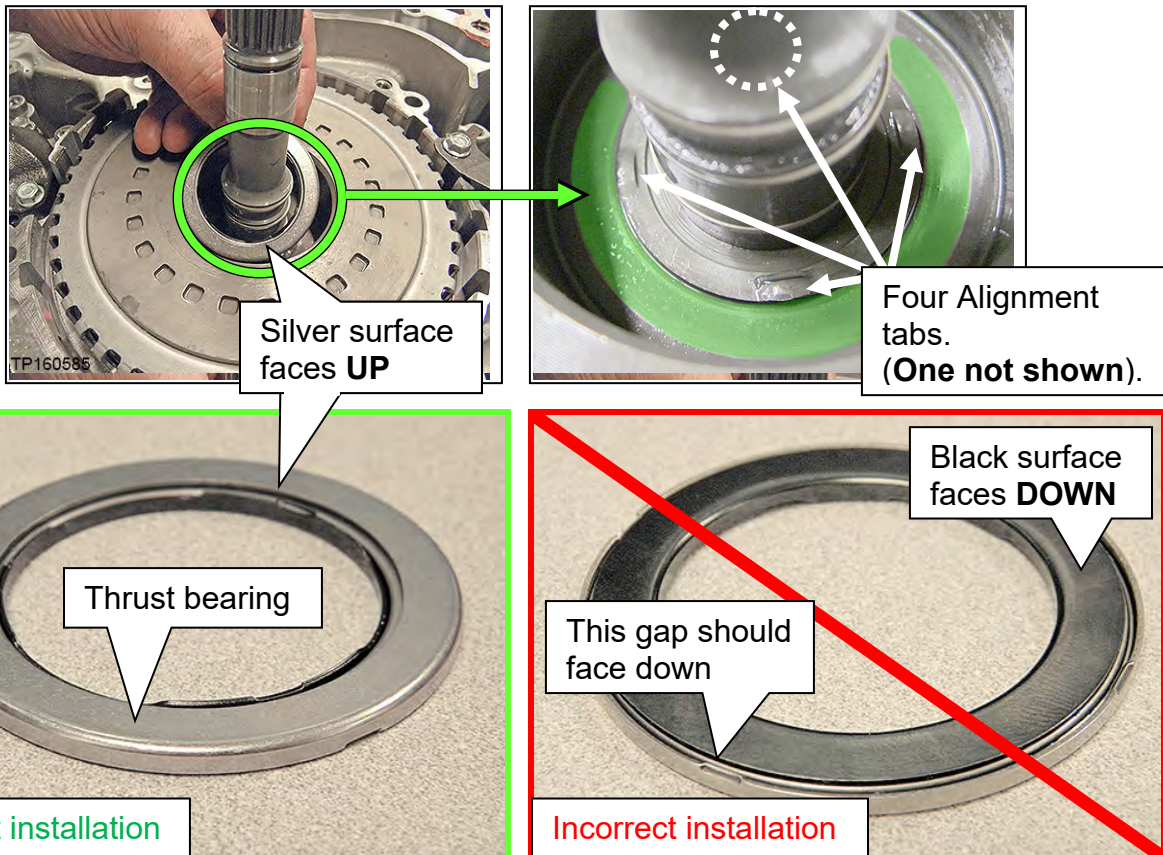

Figure 10G
- 7. Install the thrust bearing flush to the clutch assembly bore as shown in Figure 10G.